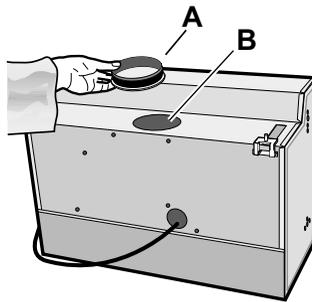

Fig. 1
- In this version fumes are extracted to the outside via a hose connected to the coupling ring **A**, placed in the outlet hole **B**. **Fig. 1**.
- The deflector **F** must be fitted over the hole **B** (**Fig. 1**) fixing it with the screw provided. **Fig. 5**.